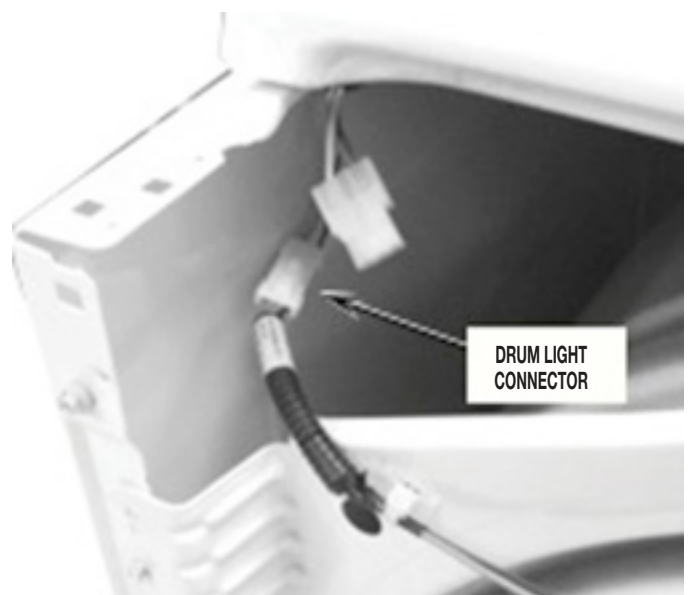

FIGURE 5
5. Disconnect the drum light connector located in the top left front corner of the dryer. See *Figure 5*.